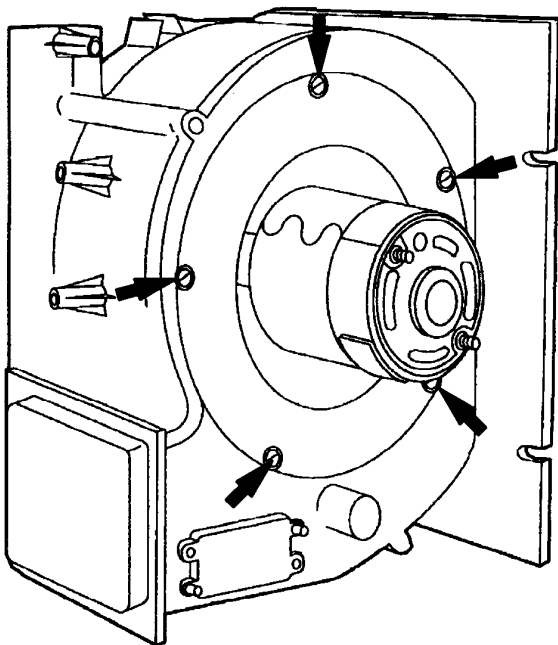

Figure 40 Screws Securing Blower Motor Assembly
8. If the motor is to be replaced, remove the five screws that secure the blower motor assembly to the blower housing and remove the blower motor assembly (Figure 40).
2. Install the blower motor assembly in the blower housing with the five screws removed in Step 8 of Remove above (Figure 40).